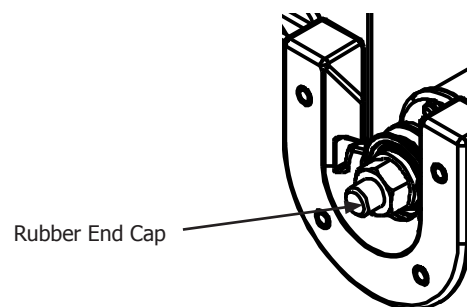

Fig. 14-1
- (1) frame assembly with poles
- (8) rubber end caps
**14-1:** Slide one (1) rubber end cap onto the end of each bolt sticking out of the pole ends, as shown in **Fig. 14-1**. If the poles are assembled properly, there should be approximately 3/8-inch to 1/2-inch of metal threads showing beyond the ends of the pole.